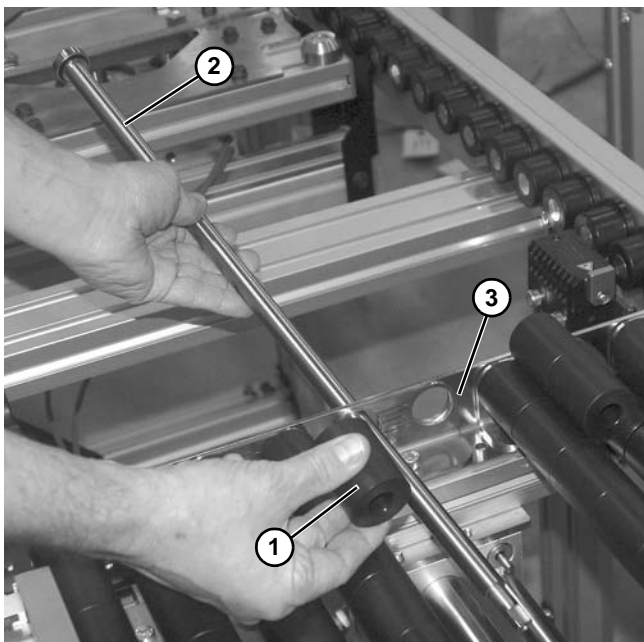

Figure 122
13. Continue removing all rollers (**Figure 122, item 1**) and rod (**Figure 122, item 2**) from bracket (**Figure 122, item 3**).